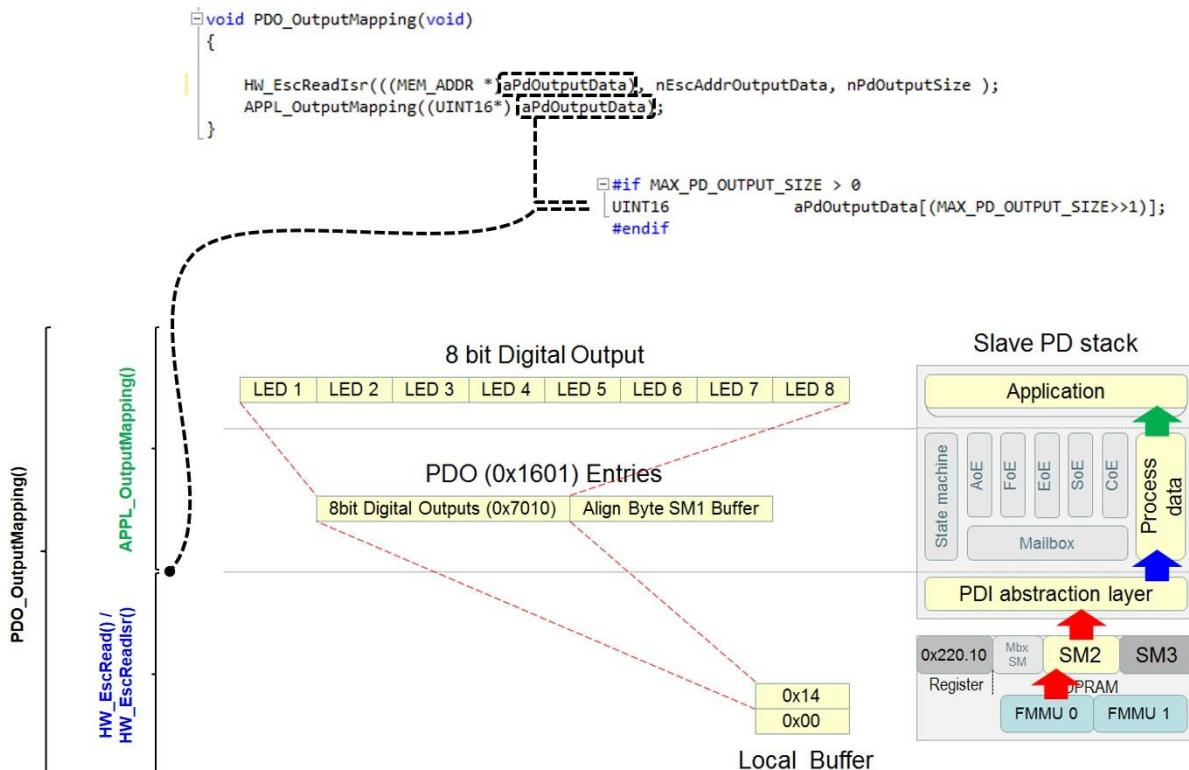

Figure 6: EL9800 Application Output Mapping
1. PDO\_OutputMapping() : handles the data from the master to the slave, e.g. EL9800 application, Figure 6.